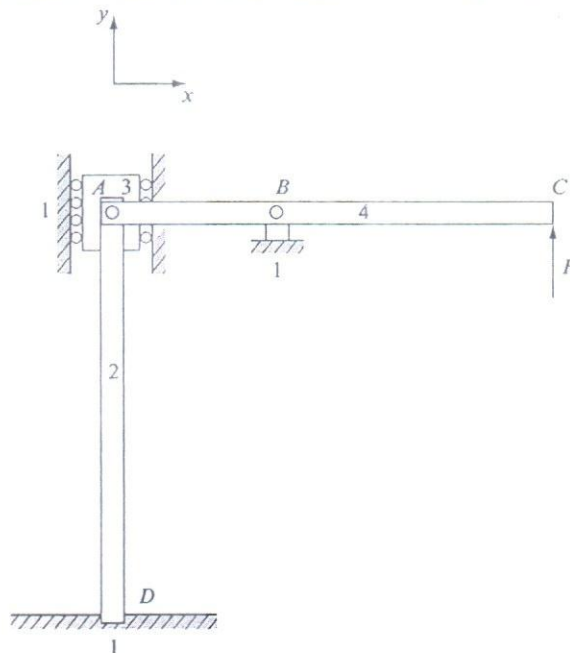

Figure 3
3. **Figure 3** shows a linkage where, the horizontal link 4 is pinned to the ground at point *B* and pinned to links 2 and 3 at point *A*. Link 2 is fixed to the ground at point *D*. Assume that links 2 and 4 are in static equilibrium. The distances are $R_{BA} = 1.5$ m, $R_{CA} = 3.5$ m and $R_{DA} = 3$ m. Links 2 and 4 are made from a steel alloy with a compressive yield strength $S_{yc} = 390$ MPa and a modulus of elasticity $E = 207$ GPa. The link 2 has a hollow circular cross section with an outside diameter of 50 mm and a wall thickness of 5 mm. Using the theoretic value for the end-condition constant for link 2, determine: (25)